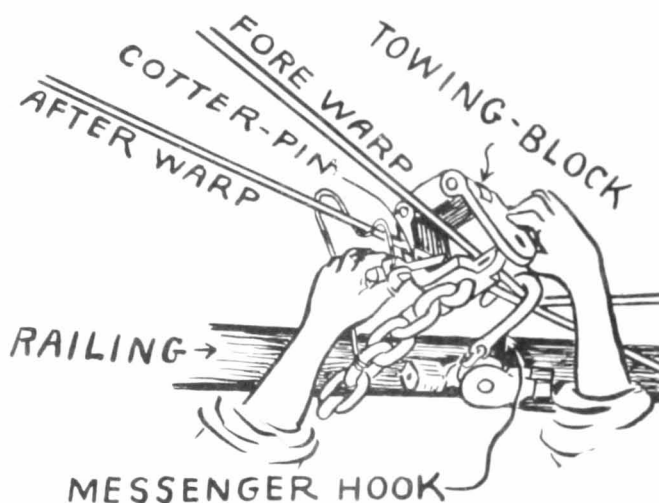

Fig. 11. Securing Towing Warps in Towing Block.
14. When both warps reach the railing, the hook-up man encloses both warps with the hook-up or towing block and secures the hasplike closing device with a cotter pin (fig. 11).